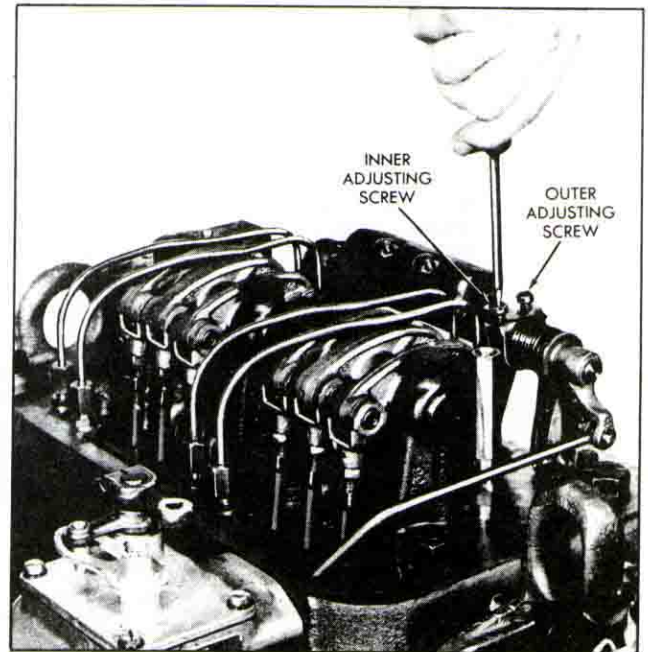

Fig. 10 - Positioning No. 2 Injector Rack Control Lever
- Turn the inner adjusting screw of the No. 2 injector rack control lever down until a step up in effort is noted. This will place the No. 2 injector rack in the full fuel position. Turn down the outer adjusting screw until it bottoms lightly on the injector control tube. Then, alternately tighten both the inner and outer adjusting screws until tight (Fig. 10).